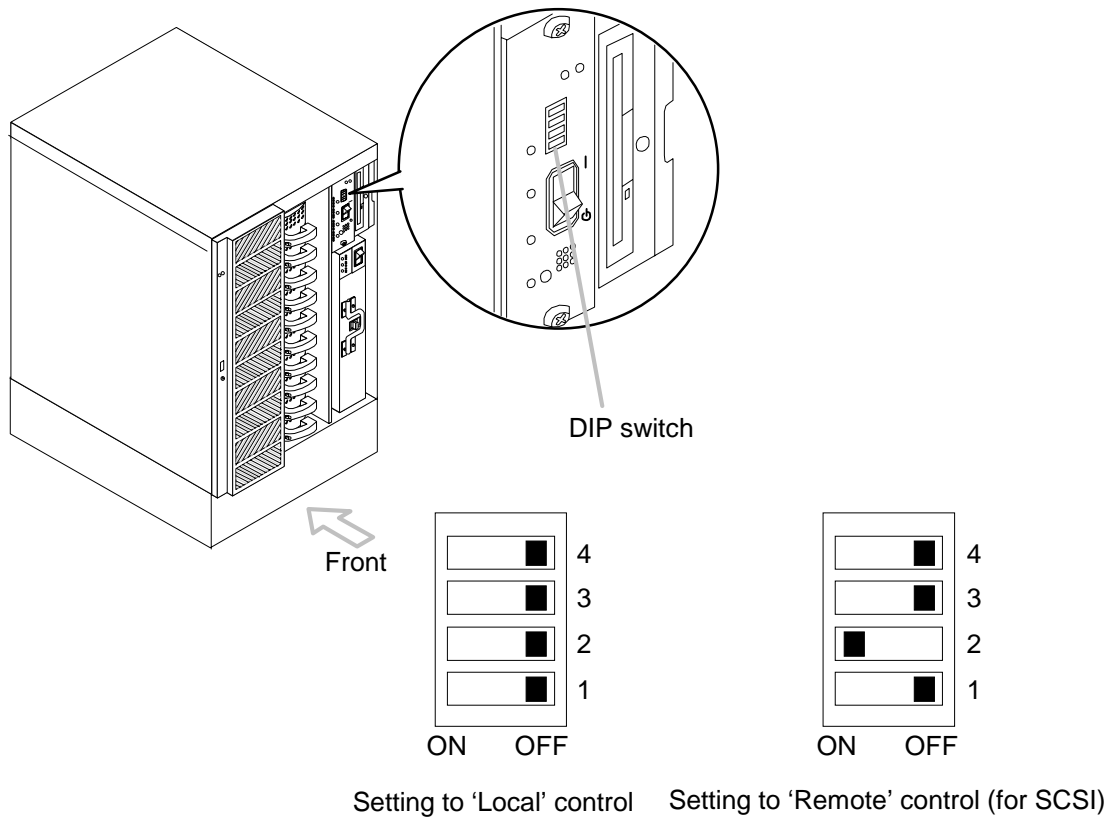

Figure 4.32 Location of DIP Switch
9. Set the power control to 'Remote', the DF500 unit can be started and stopped remotely from the host computer. If set to 'Local', the unit is started and stopped by its self. (see figure 4.32)